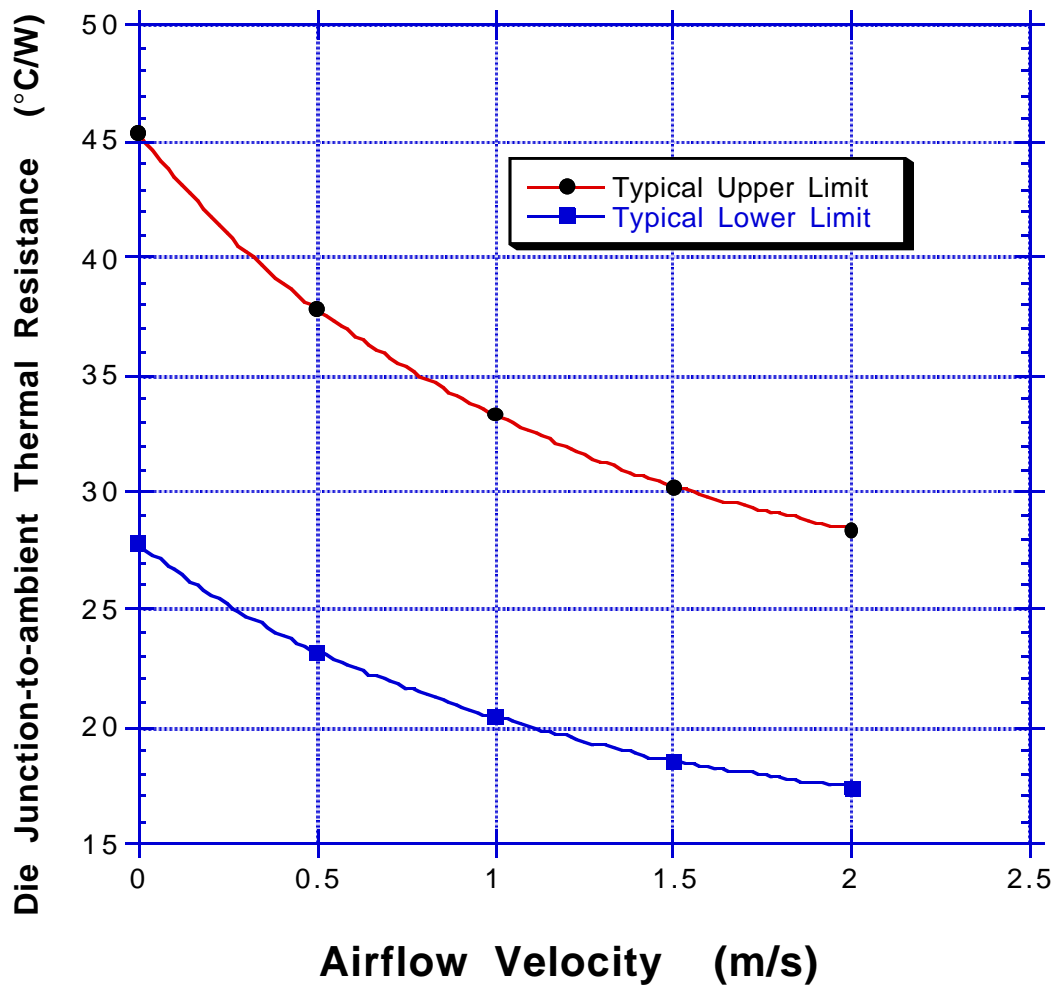

Figure 25. Die Junction-to-Ambient Thermal Resistance
This section provides thermal management information for the plastic ball grid array (PBGA) package for air-cooled applications. Proper thermal control design is primarily dependent upon the system-level design: the heat sink, airflow and thermal interface material. Figure 25 depicts the die junction-to-ambient thermal resistance for two typical cases:
1. A heat sink is not attached to the PBGA package and there exists high board-level thermal loading of adjacent components. See “Typical Upper Limit” curve in Figure 25.
2. A heat sink is not attached to the PBGA package and there exists low board-level thermal loading of adjacent components. See “Typical Lower Limit” curve in Figure 25.
Figure 25 shows the die junction-to-ambient resistance.